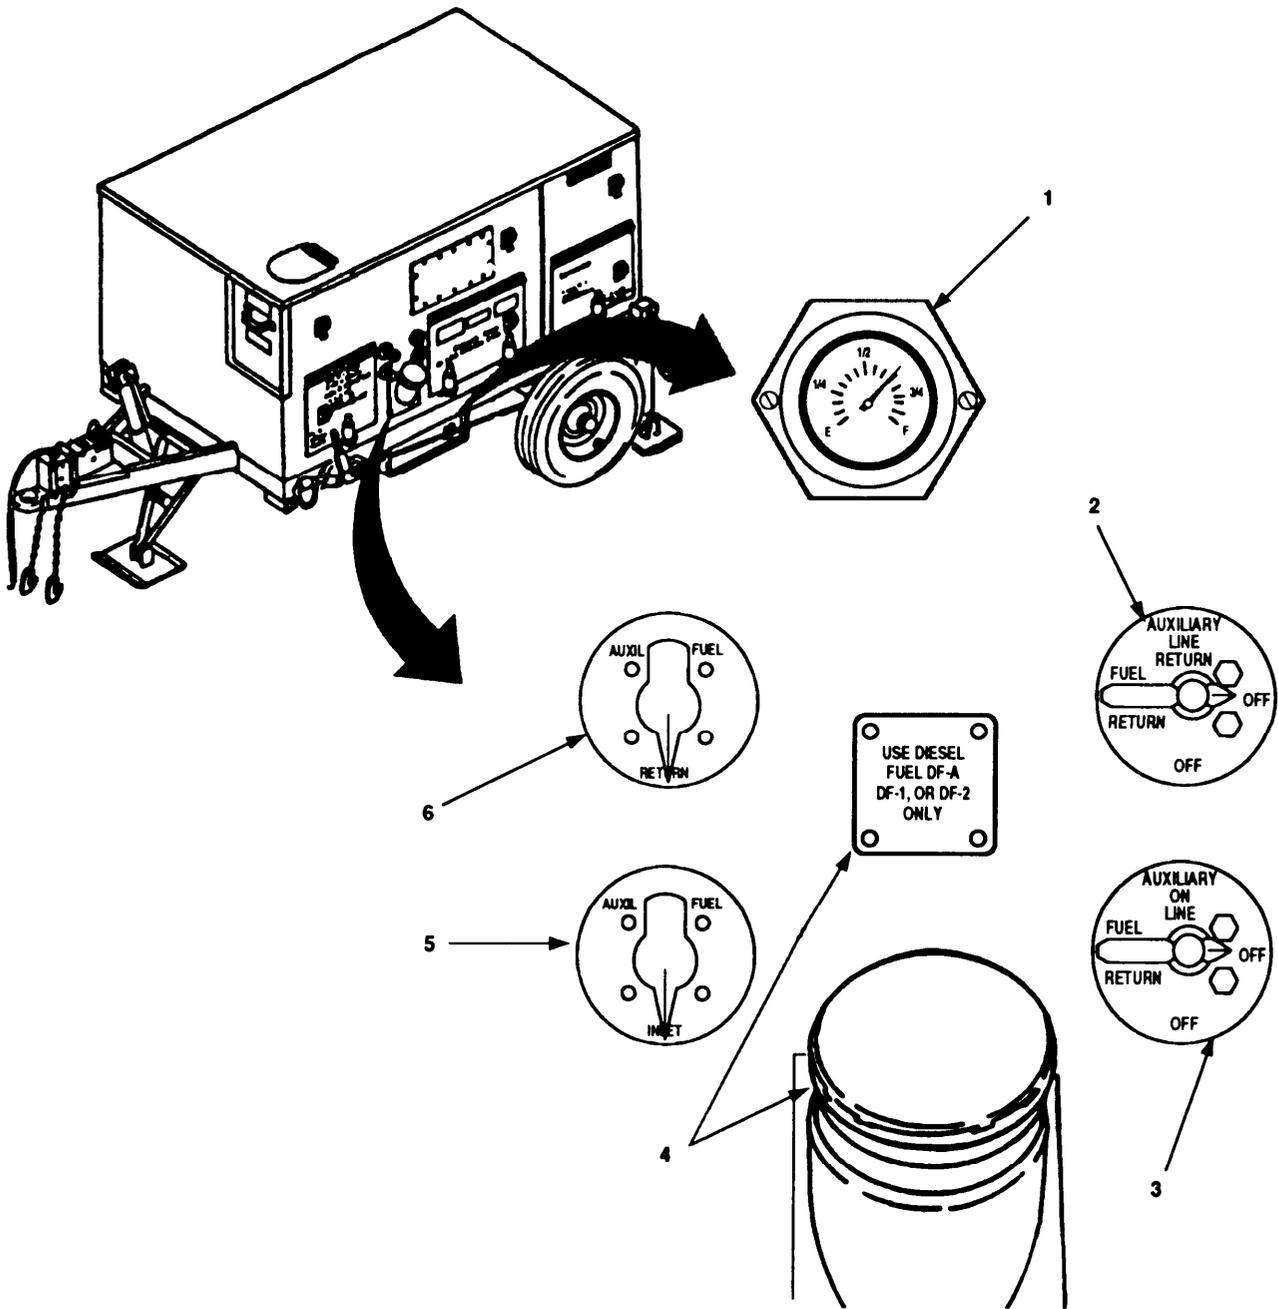

Figure 2-5. Model 609-C Fuel System Controls and Indicators.
2.1.2.3 Fuel System. Refer to Figure 2-5 and Table 2-5.